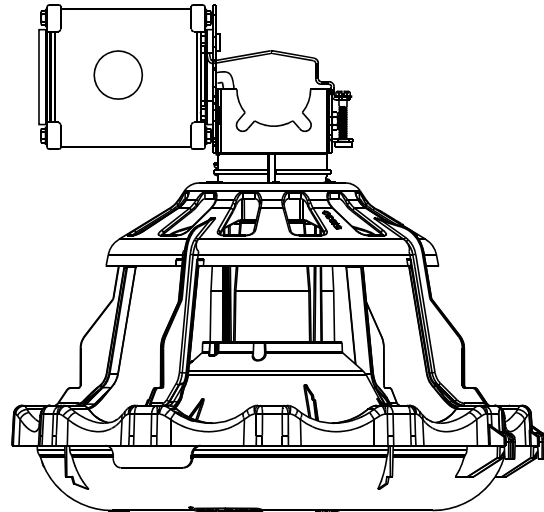

Figure 64. Electronic Control Installation
1. Assemble the Mid-Line Control to the Feeder Tube, as shown in **Figure 64**.
2. Attach the Switch Box Assembly to the Feeder Tube with Hose Clamps as shown in **Figure 64**.